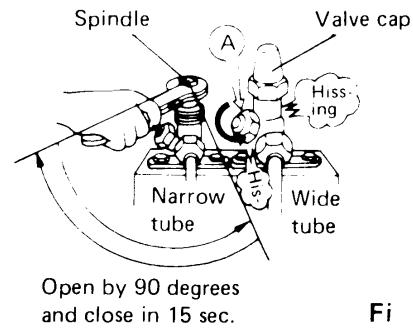

Fig. 32
- b) Loosen the flare nut (A) of wide tube by 180 degrees (1/2 turn). Fig. 32